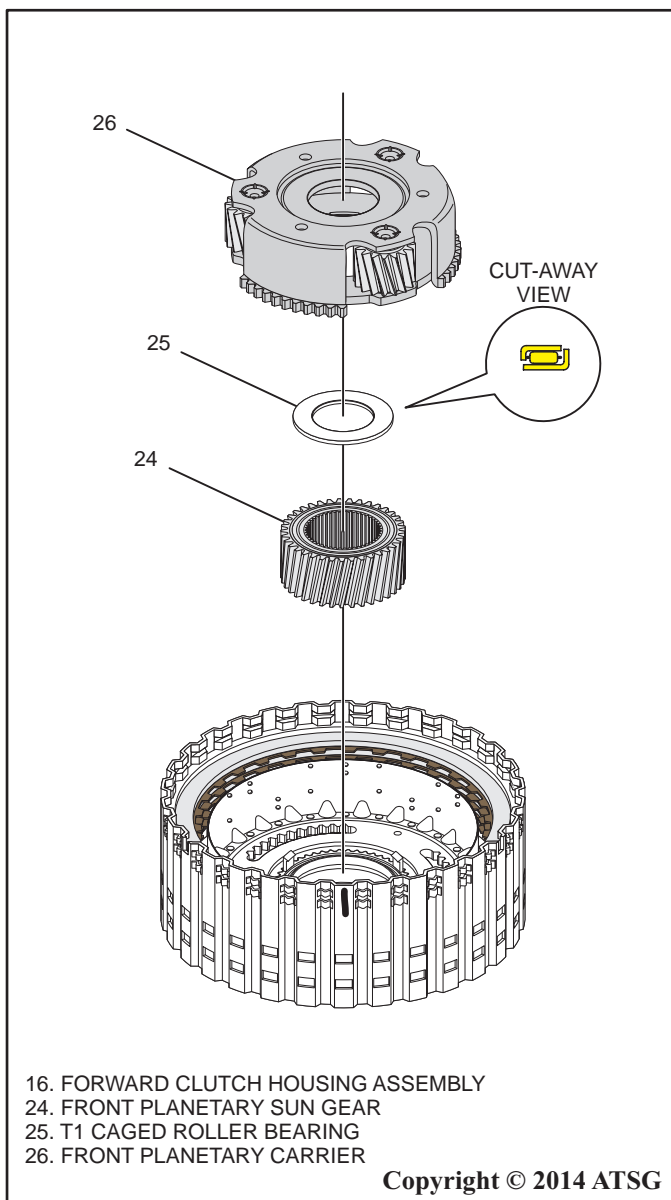

Figure 92
50. Install the T1 caged roller bearing onto the front planetary sun gear and hold the bearing in place with a small amount of Trans-Jel® as shown in Figure 92.
51. Install the front planetary sun gear into the planetary carrier as shown in Figure 92 with the flat side facing up into the planetary carrier. Install the planetary carrier assembly into the forward clutch housing, lining up the splines to fit into the drum as shown in Figure 92, making certain the planetary carrier snaps and locks into place.